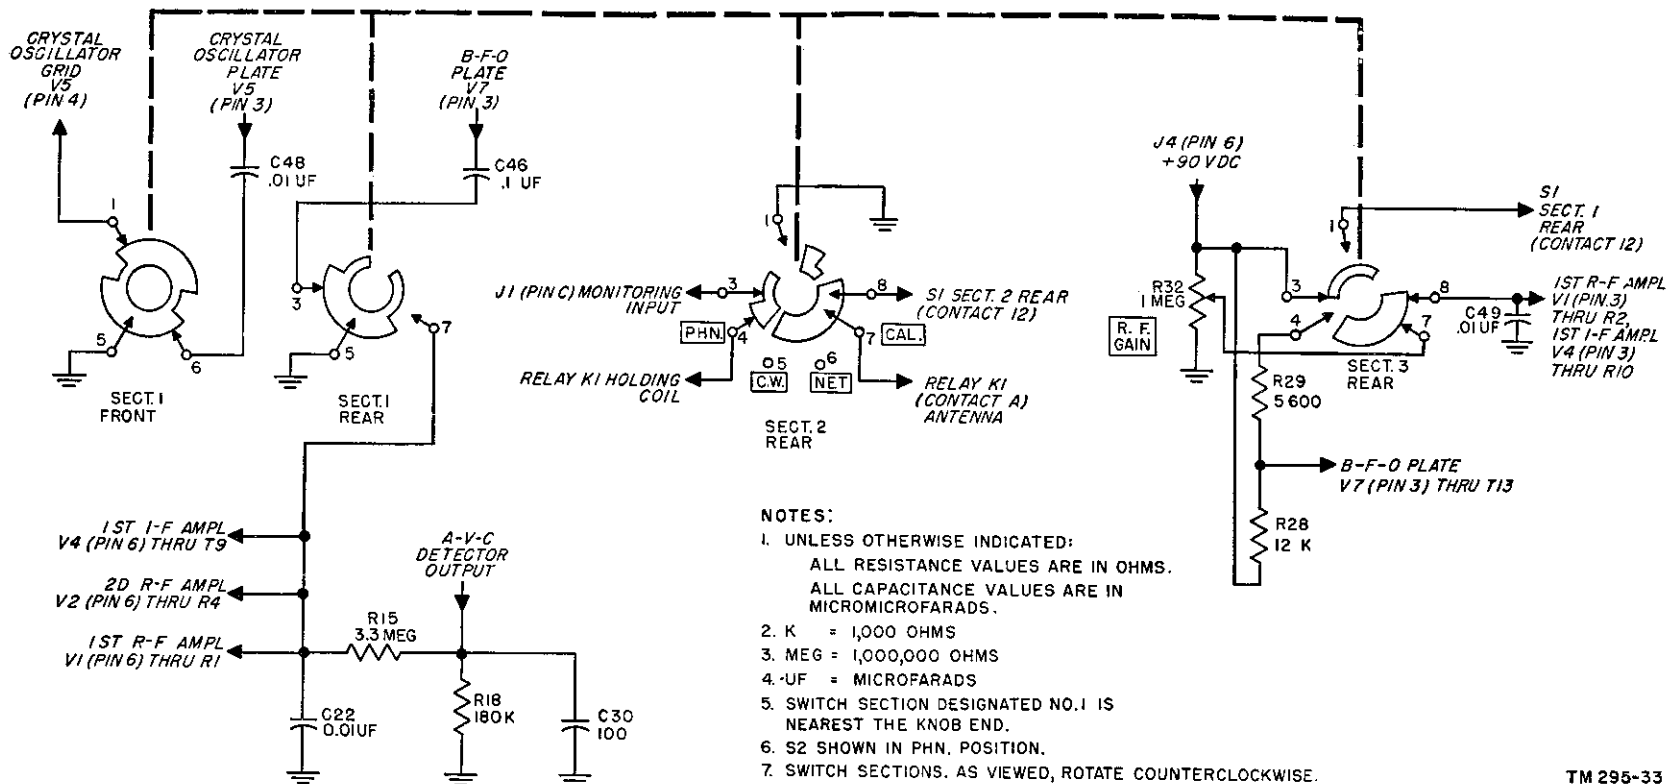
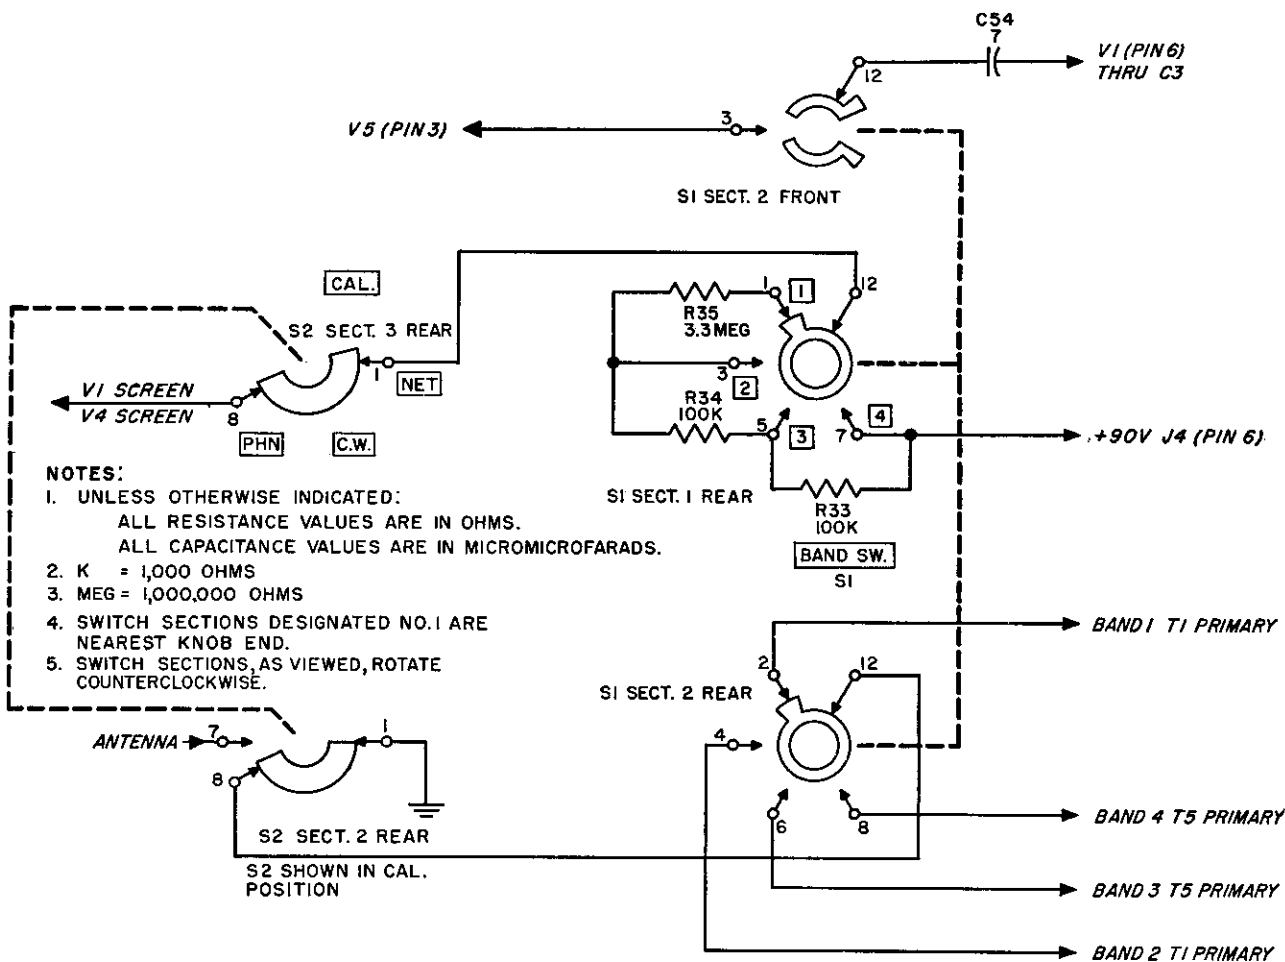

Figure 32. Radio Receiver R-174/URR, circuit of PHN.-C.W.-NET.-CAL. switch.
Figure 33. Radio Receiver R-174/URR, calibration, section 1 of BAND SW switch S1, functional schematic.
## 64. PHN. Operation (fig. 32)
(fig. 32)
(figs. 32 and 34)
(figs. 32 and 33)
a. In the CAL. position of PHN.-C.W.-NET-CAL. switch, the receiver is capable of receiving signals only from the crystal calibration oscillator. The conditions are the same as C.W., except that the crystal calibration oscillator is operative (fig. 32), the antenna circuit is open (fig. 33), and the primary of antenna transformer T1 or T5 is shorted (fig. 33). The R.F. GAIN control is inoperative.
b. In this mode of operation, screen voltage for r-f tube V1 and i-f tube V4 is obtained from the 90-volt d-c potential at pin 6 of J4 through section 3, rear, of PHN.-C.W.-NET-CAL. switch S2 and section 1 of BAND SW. switch S1, and the voltage-dropping resistor network consisting of R35, R34, and R33 (fig. 33). These resistors are eliminated successively from the screen circuits of V1 and V4 as BAND SW.